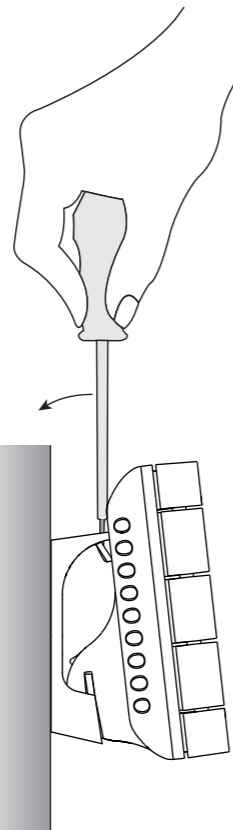
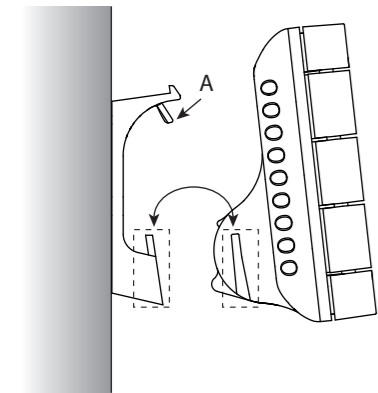

Fig. 5
Fig. 4
- Use scissors or cutting nippers to remove the plastic part A shown in Fig. 4 if the device needs to be removed from the support without needing a screwdriver. Otherwise, leave the part intact, and a screwdriver inserted in the position shown in Fig. 5 will be required to release the device;
- Slide the terminal onto the support, as shown in Fig. 4;